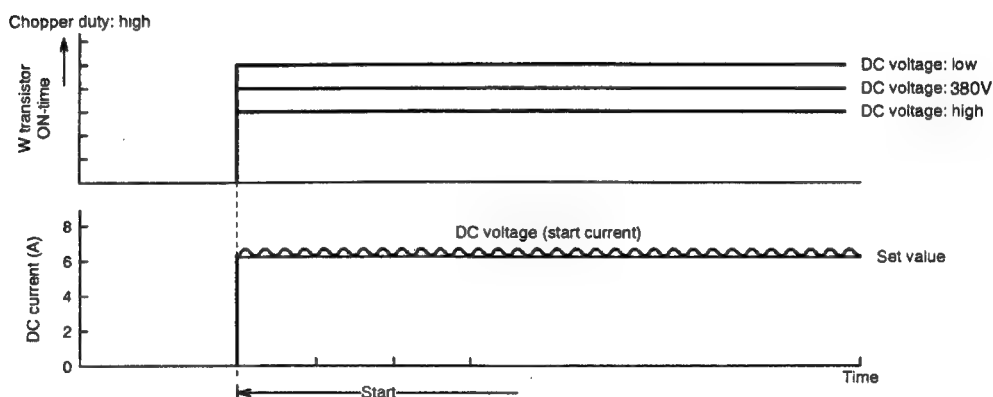

Fig. 9-10
- (2) Varies the turn-ON time of the W⁺ transistor according to the DC voltage level and the start is controlled so the start current is approx. 8A as shown in Fig. 9-10.